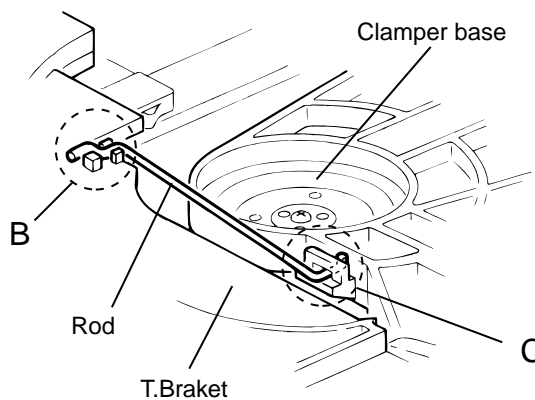

Fig.2
(See Fig.2~4)**
4. From the T.bracket section "B" and clamber base section "C", remove both of the edges fixing the rod(See Fig.2 and 3).